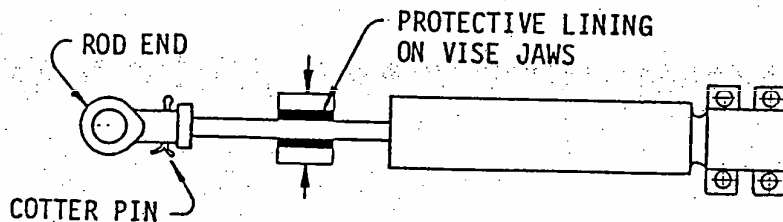

Fig. 1.
2. Extend the piston rod and clamp it in wooden or soft copper-lined vise jaws. Tighten vise to grip rod firmly, but do not crush. See Fig. 1.